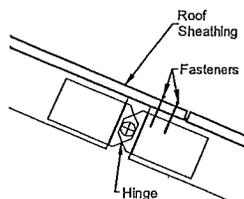

**Figure 22.** Diagonal bracing
5. **Install Bracing.** Install diagonal bracing at both ends of each home section from the top of the gable end truss approximately 45 degrees downward. Keep trusses plumb and secure the brace with two (2) 7/16" x 1-3/4" x 16 ga minimum staples per truss (**Figure 22**).